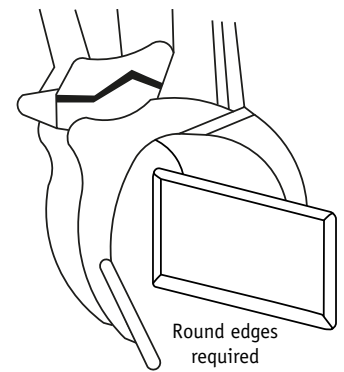

Fig. 4 Excavator grabs for transport and installation of GSCs Secutex® Soft Rock
- Excavator grab with rounded edges (see Figure 4), bucket with a sufficient size or J-Bin.